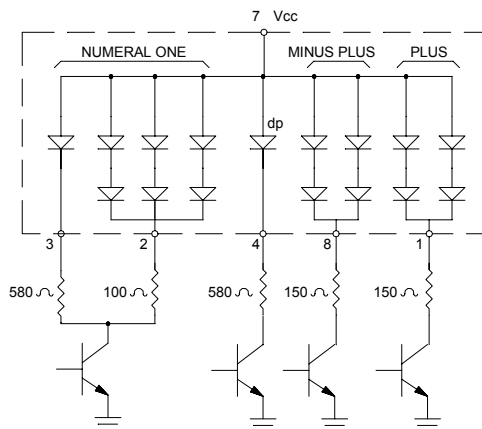

FIGURE 3
- L: Line switching transistor in figure 3 cutoff.
H: Line transistor in figure 3 satuated